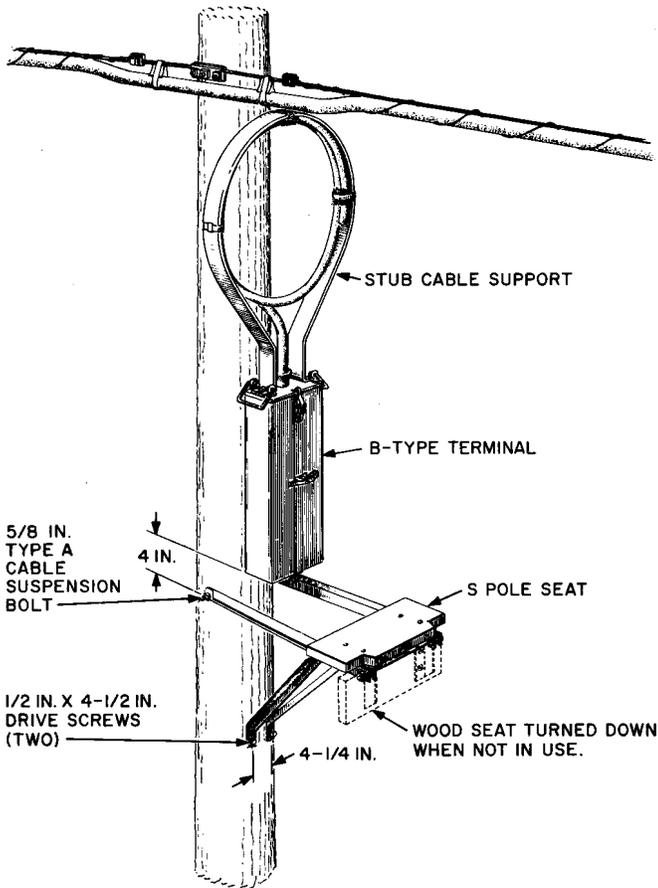

Fig. 15—S Pole Seat
7.01 The placing arrangements shown are for cross-connect terminals and pole seats located as shown in Fig. 15. The drive screws which secure the diagonal members of the pole seat to the pole are used as the reference point. These drive screws are about 24 inches below the bottom of the terminal. (See Section 631-300-213 for further instructions.)